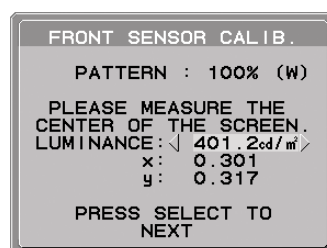

Figure S.4
6. The measurement screen will be displayed. Measure the luminance and chromaticity value of the center of the display by using the external near range color analyzer. Input the measured value to LUMINANCE and chromaticity by using the control keys, then press SELECT (**Figure S.4**).